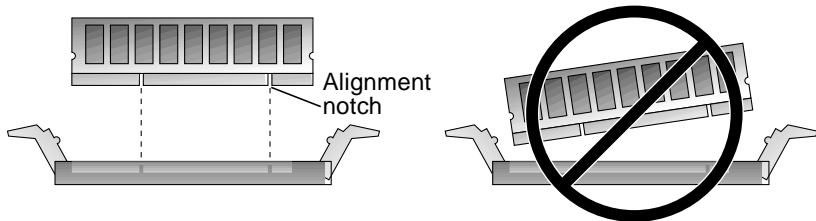

FIGURE 5 Correct DIMM Insertion
- 2. Push apart the ejection levers at each end of an empty DIMM connector on the motherboard (FIGURE 5).**
- 4. Position the DIMM in the connector, ensuring that the alignment notches on the bottom of the DIMM are aligned with the connector alignment keys (FIGURE 5).**
Caution – Seating the DIMM into a slot unevenly can cause short circuits that damage the system. Ensure that all contacts engage at the same time. Do not rock the DIMM into place. You should hear a “click” when the DIMM is properly seated (FIGURE 5).